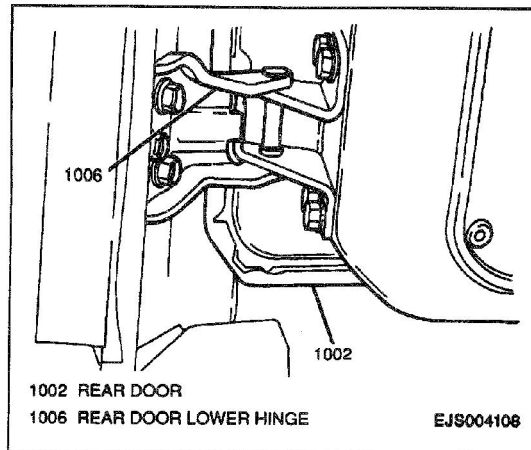

Figure 4—Rear Door Lower Hinge
14. Four bolts securing the lower hinge to the rear door (Figure 4).